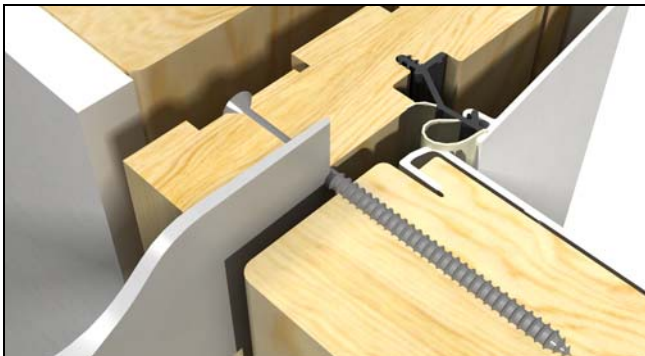

Figure 17
2. Locate stationary panel attachment screws by sliding a masonry chisel between the space of the stationary jamb and panel (both side and head). When a screw is located you will hear a distinct metal sound. Shear off each screw (3 - 4 along jamb and 4 on the head jamb) with a masonry chisel and striking it with one blow by a 3# hammer. See figure 17.